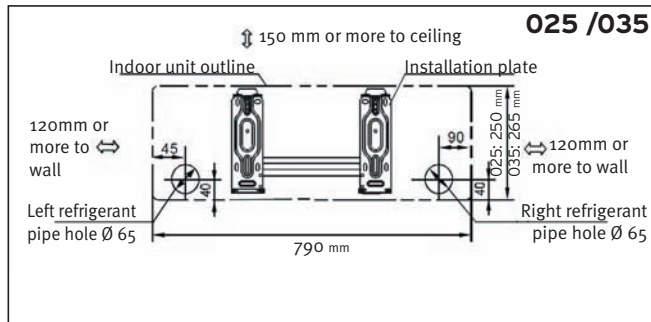

Fig. 9.1 Dimensions of the hole for the piping.
- Case A: Pipework exiting from the rear of the unit. In this case, a suitable hole must be made in the wall behind the unit (see Figure 9.1).
- Drill a hole in accordance with the diameter and position as indicated in Figure 9.1, ensure the hole is slightly descending to the outside to allow for a fall in the drain line.